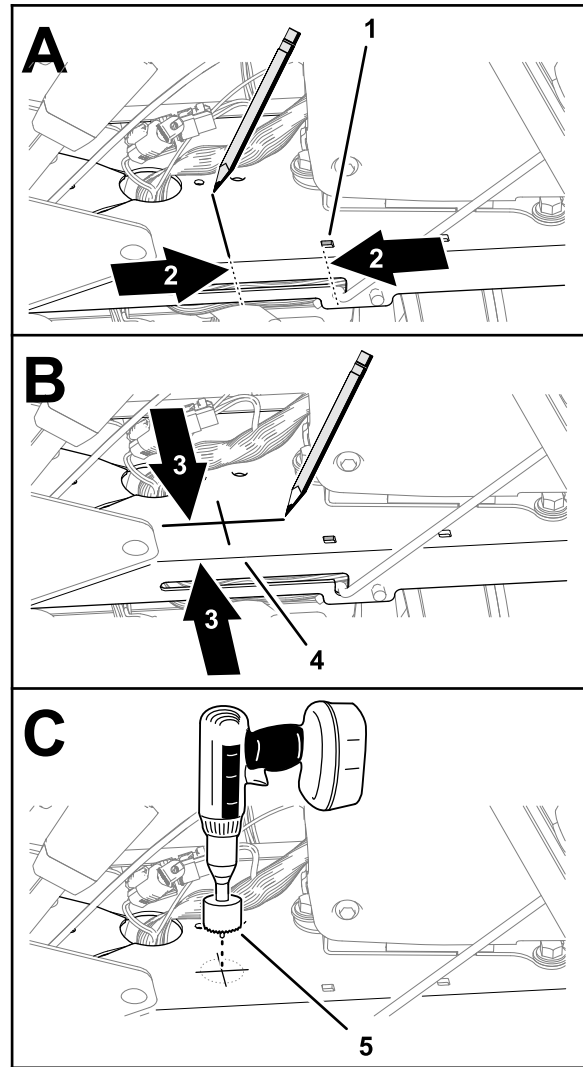

Figure 75
3. Measure 69 mm (2-11/16 inches) rearward from the square hole near the prop-rod slot in the console base, and mark the console base (Figure 75).
4. Measure 45 mm (1-3/46 inches) inward from the slotted flange of console base, and mark the console base (Figure 75).
6. Drill a hole in the console base at the centerpunch mark with a 32 mm (1-1/4 inches) drill bit (Figure 75).